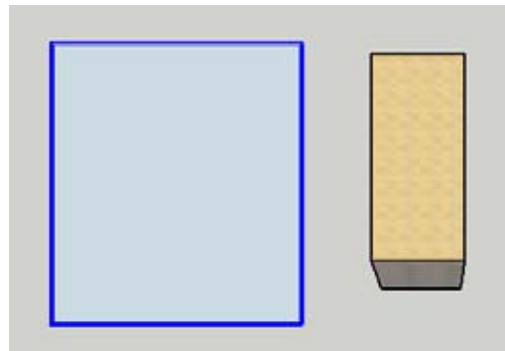

Figure 6-33
3. Make the rectangle into a group (Figure 6-33).